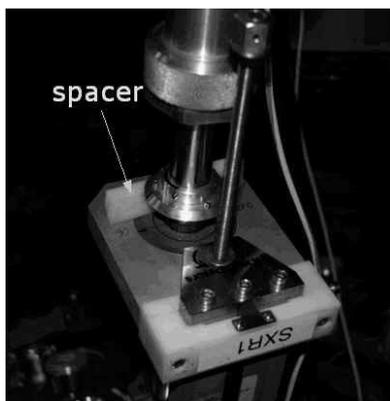

Fig.1
4. in order to close the VAT valve the SXR1 probe should be further extracted 4-5 cm, use the white spacer (see Fig.1). Since the probe has to be disconnected put the spacer vertical and not horizontal as usual;